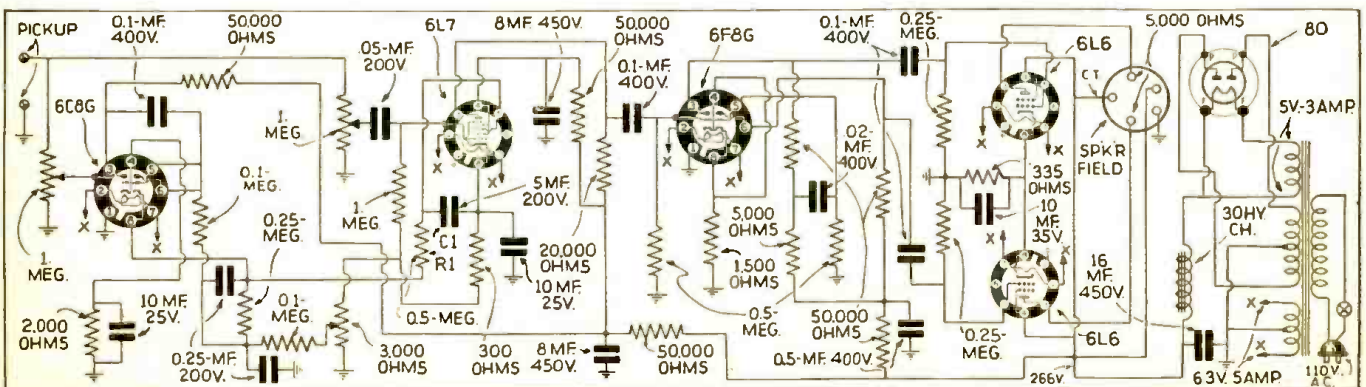

Fig. 3. By utilizing a type 6C8C tube the problem of microphonics is solved.
In the center of this sleeve is placed a tungsten heater element (A, in Fig. 3). The tungsten heater is the filament which heats up the nickel sleeve (B) or cathode. Over this
Those who have built amplifiers using this circuit have found that 6L7 is very critical and subject to microphonics. The *divider method* of obtaining the various tube voltages required high values of capacity to prevent inter-coupling between the following stages of the amplifier. In the attempt to "cure" microphonics the tube has been slung on floating sockets and in some cases completely enclosed in heavy shields to minimize acoustic coupling between the tube and the loudspeaker. *Most of the methods of floating and shielding were ineffective to say the least; so, a new electrical version of the circuit was developed.* This circuit—WHICH HELPED SOLVE THE "MICROPHONICS" PROBLEM—is shown in Fig. 3.